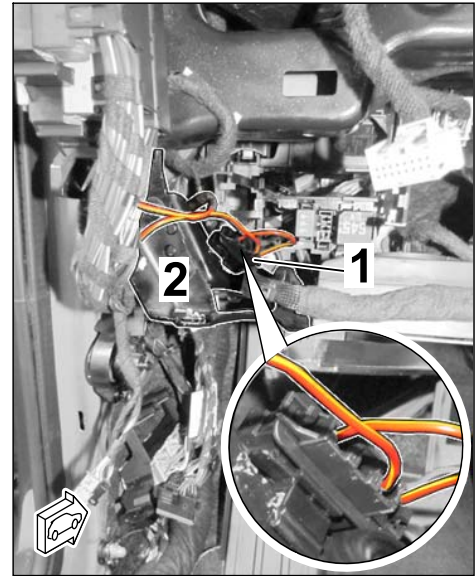

Figure 33
2.6.8 Fit pin connector socket (3-pin) with clip onto the dashboard bracket and connect plug connection (3-pin) (⇒ *Figure 33*).